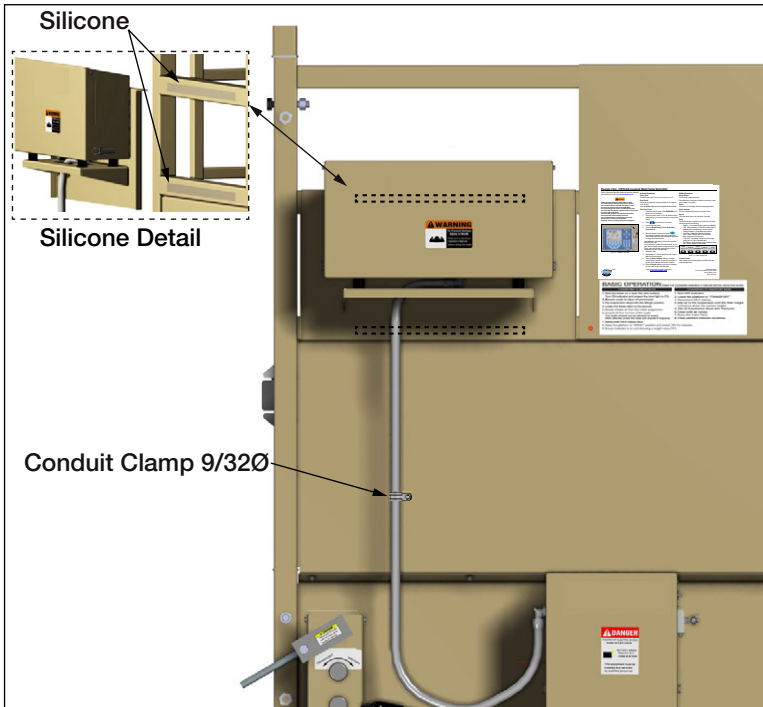
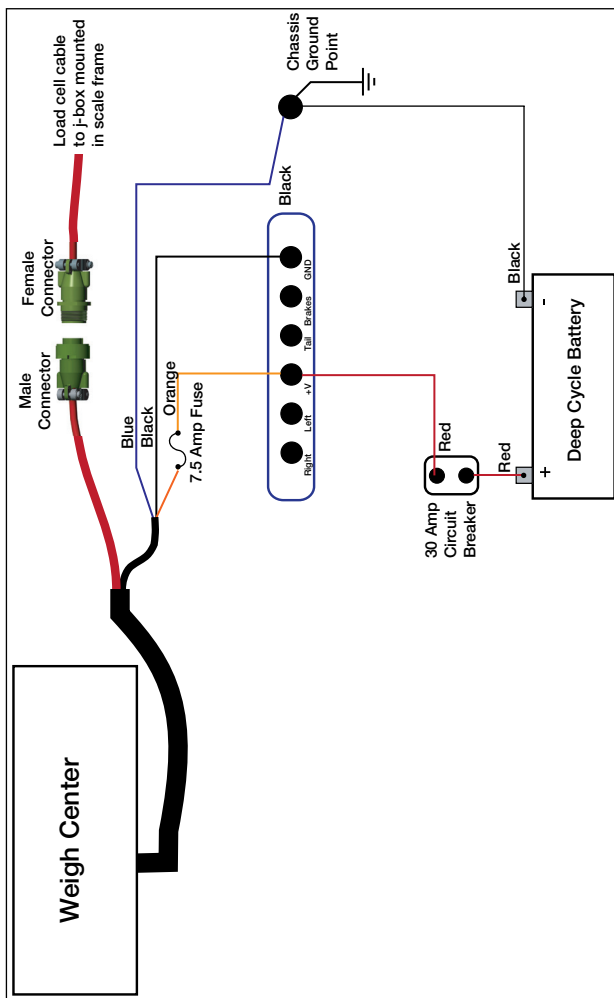

Figure 1-9. Weigh Center Mounting
Figure 1-10. Wiring Diagram
Use the following steps to mount the 920i Weigh Center to the animal scale (see Figure 1-9 on page 15 and Figure 1-10 on page 16).
2. Connect the power wires as shown in Figure 1-10 on page 16.